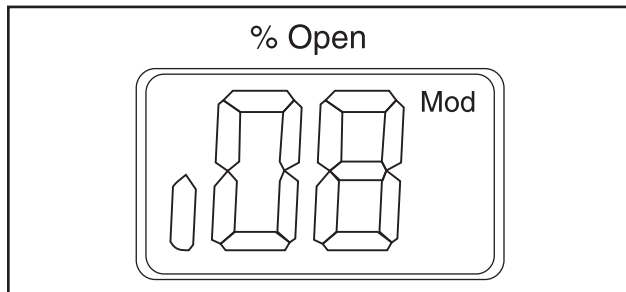

Figure 21
- Gives access to the Parameter list by keeping the push button activated for 2 seconds. A Parameter list example is shown below (parameter **i08**, Figure 21).